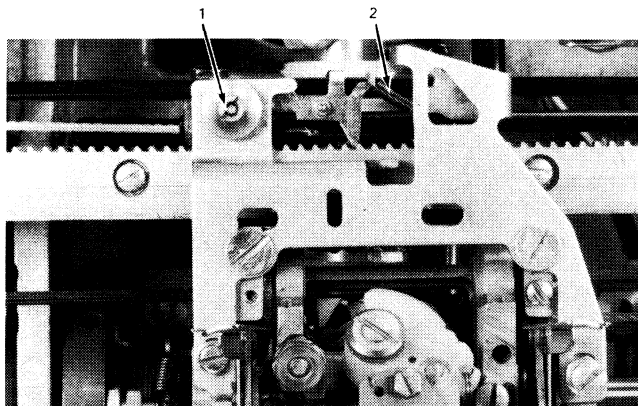

Figure 4-21. Escapement Pawl Removal
2. Remove the nut (No. 1, Figure 4-21).
4. Remove the escapement pawl spring (No. 2, Figure 4-21).